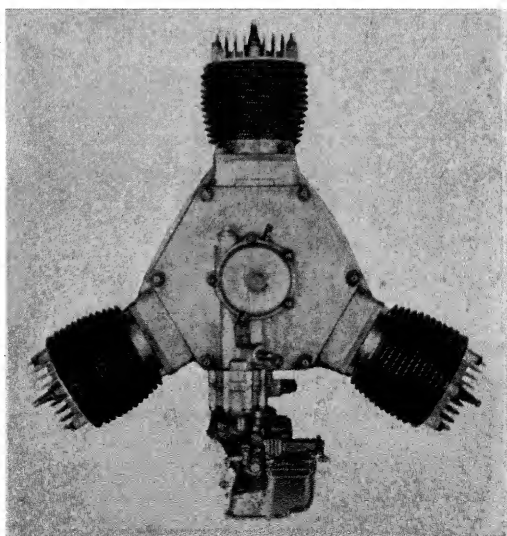

Fig. 273.—Szekeley 3-cylinder air-cooled radial aircraft engine. (Courtesy of Aviation.)
2. The following is part of the specifications on the Szekely aircraft engine (see Fig. 273). Complete all missing data.